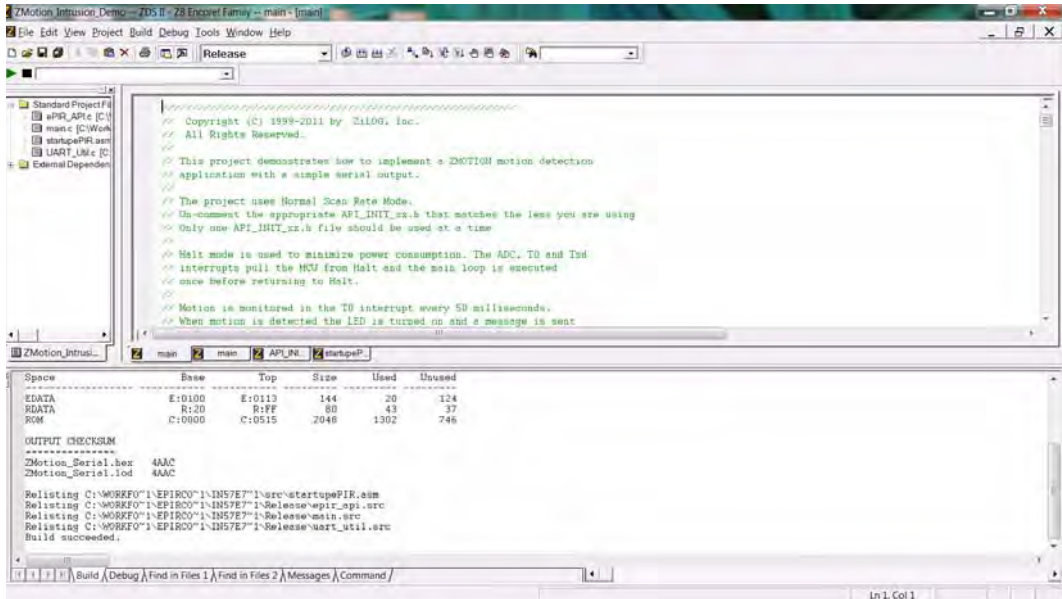

Figure 5. Building the ZMOTION\_Intrusion\_Demo project in ZDSII
3. Click the **Rebuild All** icon to build the project. The build output should not indicate any errors. If you receive errors, try reloading the projects from the original Application CD and ensure that the folders are not set to **Read Only**. See Figure 5 for an example; Figure 6 indicates the location of the **Rebuild All** icon in the ZDSII menu bar.